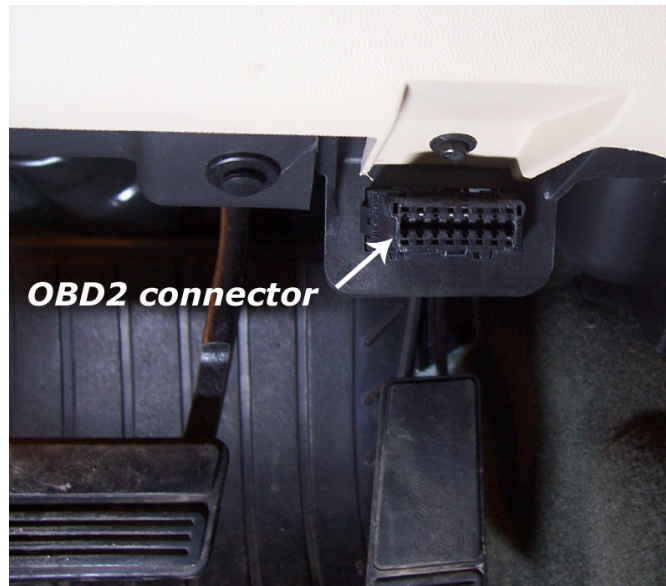

Figure 2
5. **Plug the main cable connector into the OBD2 connector.** See figure 2. The data, ground, and power on most vehicles come from this connector.